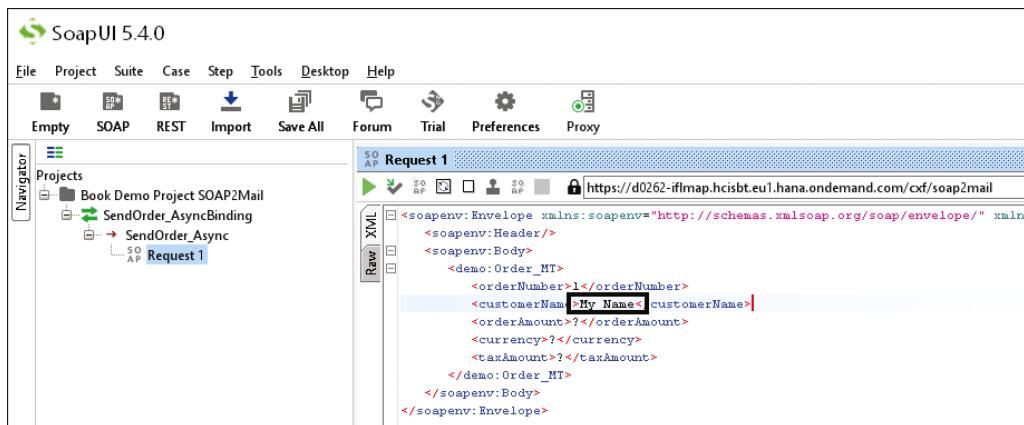

Figure 2.41 Entering Data in the XML Structure
- Close the dialog box by clicking **Auth (Basic)** again. Make any entries for the elements in the **XML structure**, which can be found in the **Request 1** window. For example, enter your name between the opening and the closing tag for **Customer Name**, as shown in Figure 2.41.